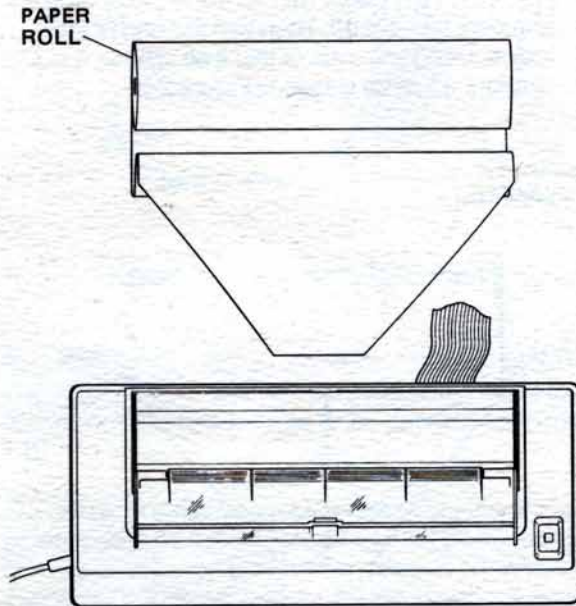

Figure 2-3 Position Paper for Loading
2. Open the hinged printer cover by pressing firmly on the depression on the back of the cover and lifting. Place the paper roll behind the printer with the end of the paper extending from the bottom of the roll, as shown in Figure 2-3.